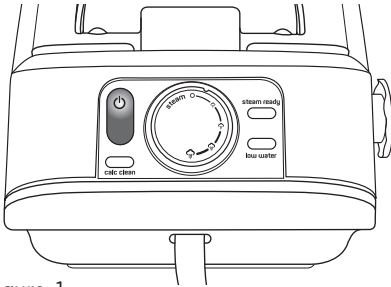

Figure 1
2. Select the power button to turn the unit on. The Power On icon illuminates WHITE as shown in Fig 1, and the unit beeps once. The boiler and soleplate will begin heating and the Steam Ready light illuminates RED.